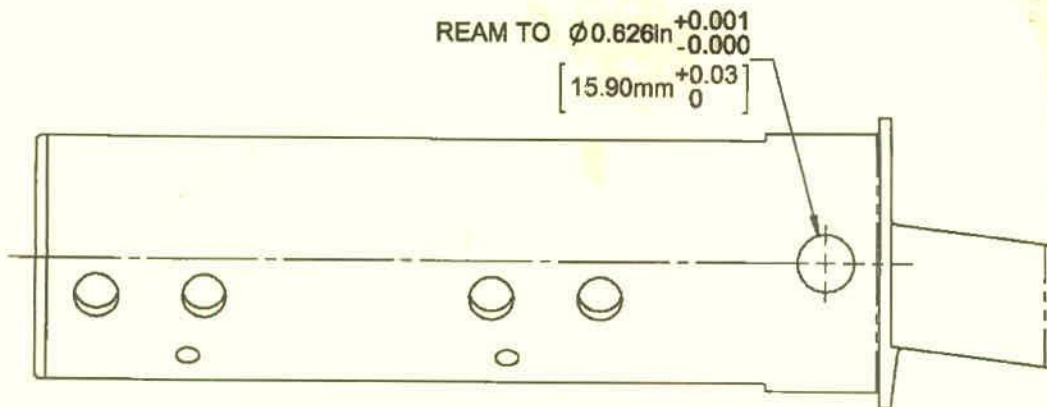

FIGURE 1: Blade Fitting Assembly Rework
- 2.1 Locate Ø0.508in (12.9mm) hole in the D3488-041/-042 Blade Fittings and enlarge to Ø0.610in (15.5mm), then ream to Ø0.626in +0.001in/-0.000in (15.5mm +0.15/-0) as shown in Figure 1 of this Service Instruction.